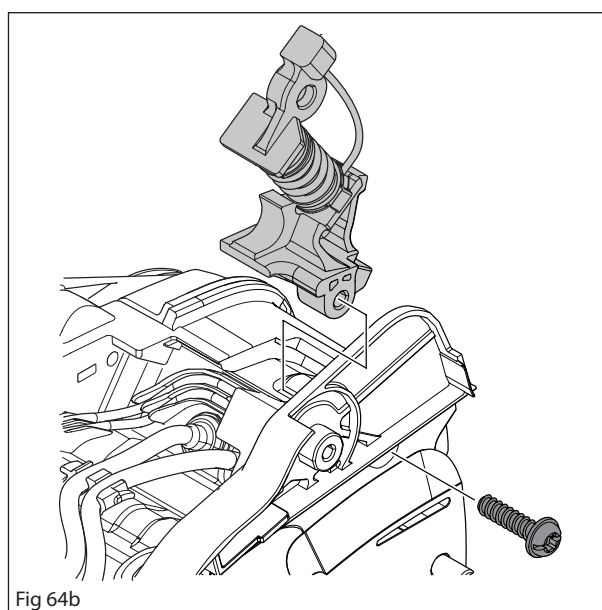

Fig 64b
7. Remove the screw and lift the antivibration element assembly. See Figure 64b.